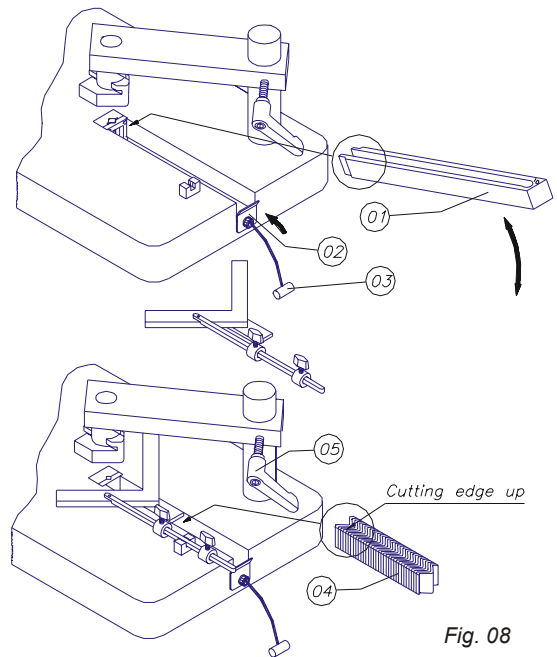
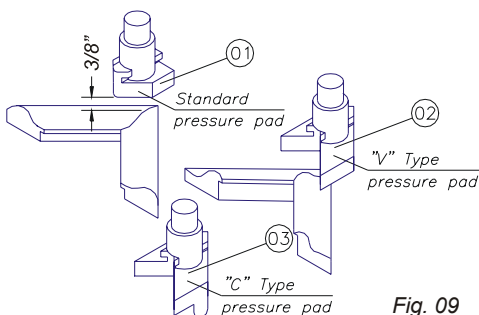

Fig. 08
Fig. 09
Pull back on the spring-loaded cable (Fig. 08 Part 03), which allows you to slip the empty magazine into its slot (Fig. 08 Part 02) in the table. Remember that the side facing up should have the number indicating the size wedge (in millimeters) stamped on it.
Pull back on the cable again, and from the point of view of the side of the table where the spring-loaded cable (Fig. 08 Part 03) is located (the back), put the wedges (Fig. 08 Part 04) in the magazine (Fig. 08 Part 01) with the cutting side (the side with the glue) facing up, and with the open end of the "V" facing away from you, towards the front of the table. Release the cable so that the spring pushes the shoe against the wedges, feeding them into the head as they are used.
The height of the pressure pad (Fig.09 Part 01) should be adjusted according to the moulding's height, using the adjusting handle (Fig. 08 Part 05). Pull the handle outwards and turn it counterclockwise to loosen the pad's arm. The pad should be set 3/8" above the top of the moulding, as shown in Fig. 09. Then tighten the pad's arm by turning the handle clockwise. The handle is springloaded and allows you to leave it in the position convenient to you when you release it.
When using "reverse" moulding profiles, when the moulding rabbet on the inside of the frame is taller than the outside, you should substitute the regular pressure pad with the "V" or "C" model pressure pads, shown in Fig. 09. The V-shaped pad is more flexible. They will not damage this type of moulding, as well as giving more support and assuring a good seating of the wedge.
- a) **The pressure pad** (Fig. 09), should be cleaned periodically with warm water, no soap, in order to remove the glue applied to the joints of the frames.